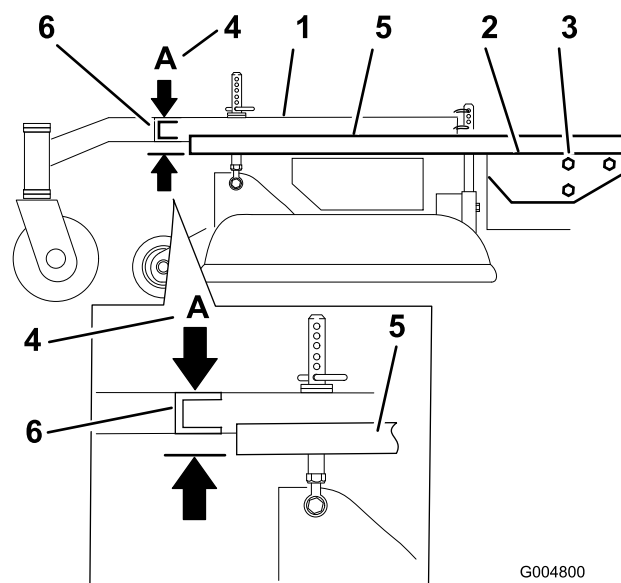

Figure 56
3. Place a long straight edge on top of the engine deck as shown in Figure 56.
4. At the carrier frame cross channel, measure the height at location A (Figure 56). This measurement must be 1-5/16 inch (33 mm), plus or minus a 1/4 inch (6 mm).
6. Loosen the carrier frame mounting bolts on both sides of the machine (Figure 56).
7. Align the carrier frame and engine deck to match 1-5/16 inch (33 mm), plus or minus a 1/4 inch (6 mm) at location A (Figure 56).